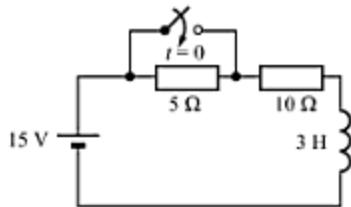

Fig. 8.26
17. For the circuit of Fig. 8.26, determine the steady-state current when the switch S is open. Calculate the value of current at $t = 0.8$ s after the switch is closed. [Ans. 1 A, 1.465 A]